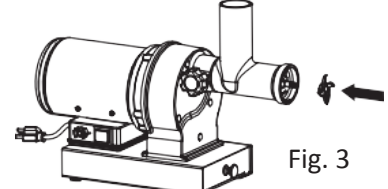

Fig. 3
- Place the cutting knife blade onto the feed screw shaft of the auger with the flat edge of the blade facing the front. (See Fig 3) *\*If the blade is not seated properly, meat will not be ground.*